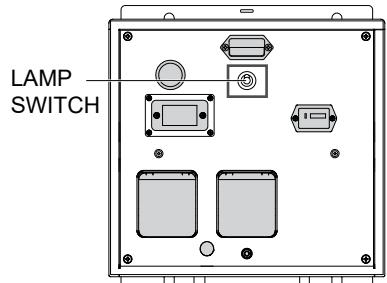

Figure 20. Turning On Lamps
1. Turn on the lamp switch (Figure 20).